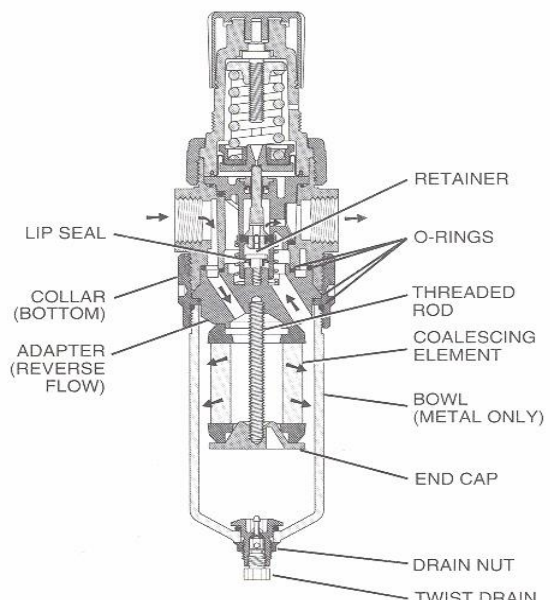

Figure 2: 12E
- B. 12E Units** - (Refer to Figure 2.)